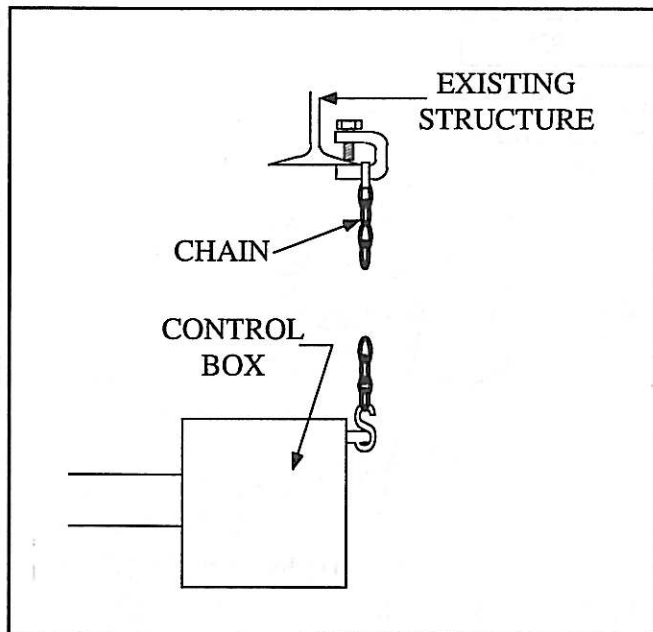

Figure 2-5
2. Use of number 1 double-loop chain is recommended for heater hanging (accessory No. DTH-CS). See Figure 2-5.